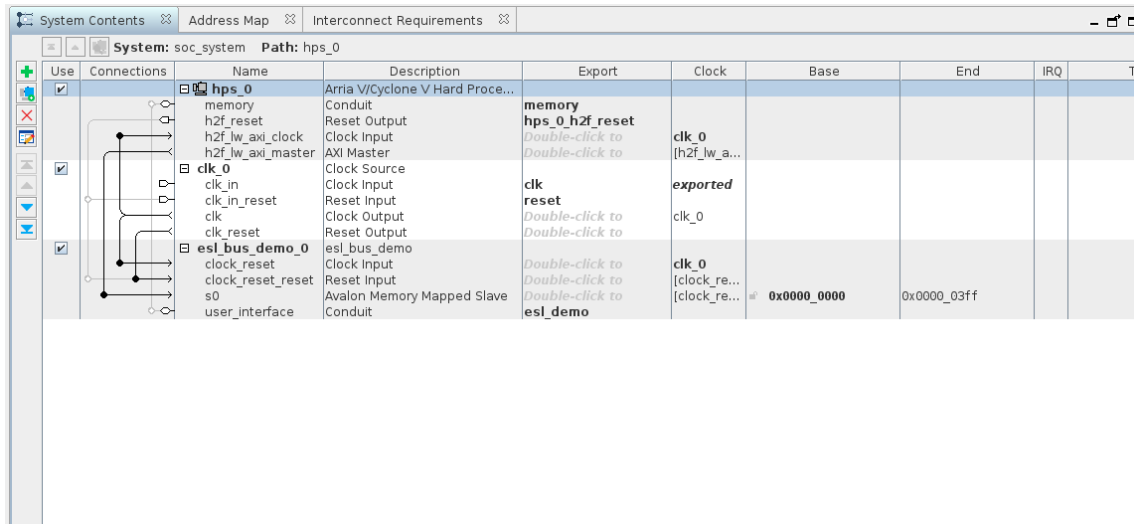

Figure 4.2: Diagram of the system with custom logic connected to the Avalon bus
- Add the `esl_bus_demo` component, keep the default settings. Make sure the component is set up the same as seen in Figure 4.2.